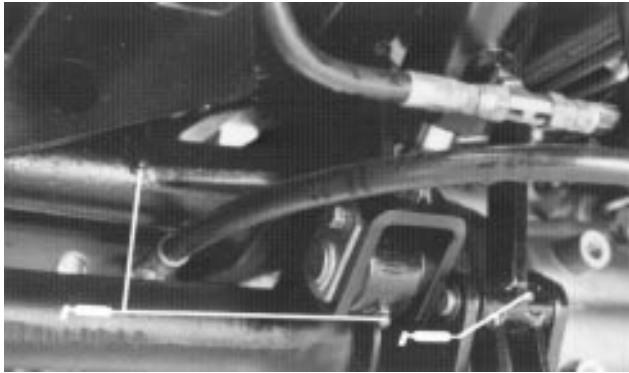
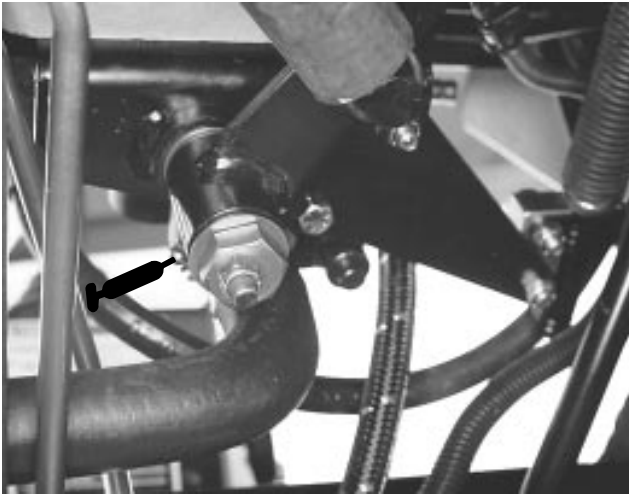

Figure 16
Figure 21
GREASING (Fig. 16–24)
1. The grease fittings that must be lubricated are: Lift arm pivot (2), lift cylinder (4), brake arm pivots (2) (Fig. 16); brake pivot (1), brake pivots (2) (Fig. 17); traction pedal pivot (1) (Fig. 18); engine to pump drive shaft (2) (Fig. 19 & 20); traction adjuster (1) (Fig. 21); P.T.O. Bearing (Fig. 22); tie rod assembly (2), center pivot (1), axle knuckles (2) (Fig. 23); cylinder ends (2) (Fig. 24).